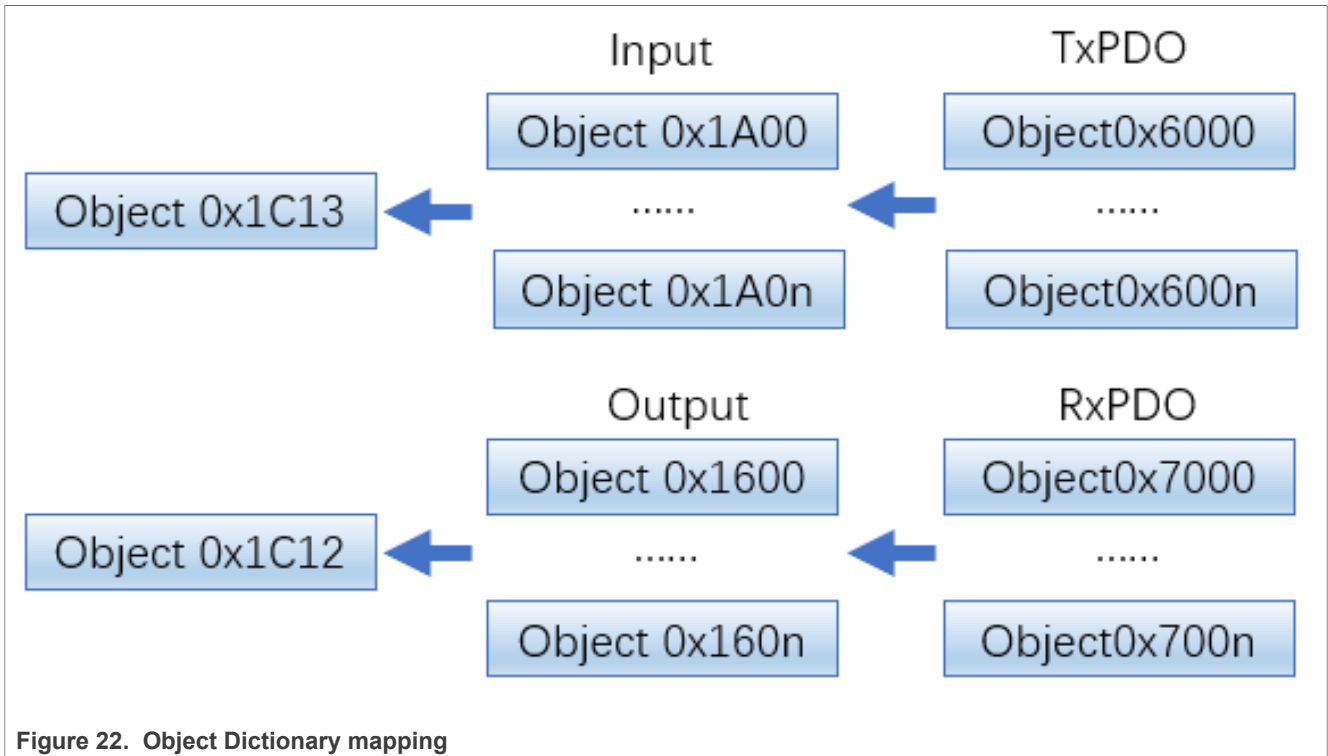

Figure 22. Object Dictionary mapping
- Object Dictionary mapping is shown in Figure 22. Object 0x1C13 decides that object 0x1A0n would be used and object 0x1A0n decides that object 0x600n would be used.